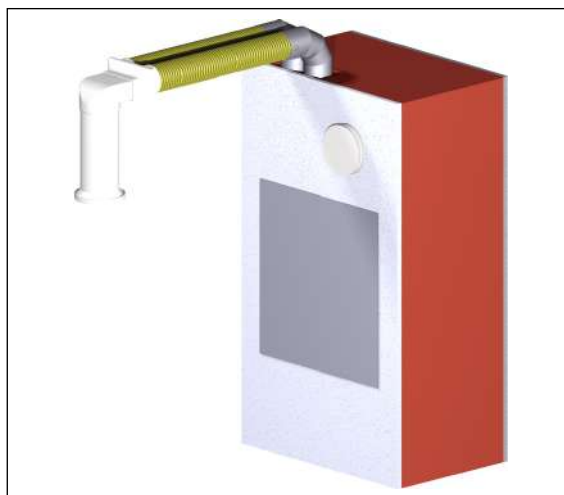

Fig. 5: U2 integrated into wall installation with ductwork connection
- U2 integrated into wall installation with ductwork connection (see Fig. 5 on page 6)